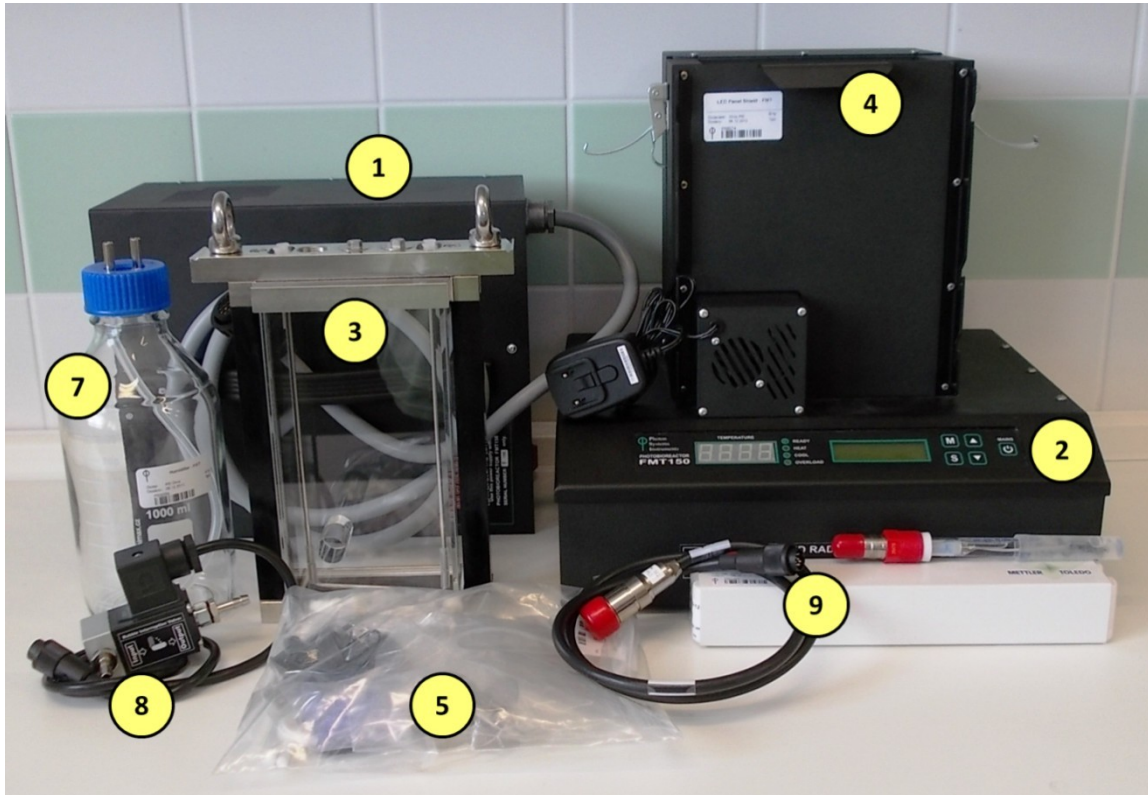

Fig. 6: Minimal configuration set of the Photobioreactor FMT150. Numbers correspond to component numbers as described on page 12.
Minimal required configuration that is recommended to be purchased for optimal operation of the Photobioreactor cultivation and monitoring system consists of **set of standard photobioreactor components** (as listed below) plus air pump with bubble interruption valve and **pH/temperature module**. Components that are part of minimal Photobioreactor FMT150 configuration are shown in Fig. 6. Optional components that are available as accessory modules and can be purchased together with Photobioreactor FMT150 are described in chapter 5
As shown on Fig. 6 on page 14 the FMT150 is shipped with:
8. **Bubble interruption valve with air pump** (air pump not shown on Fig. 6).